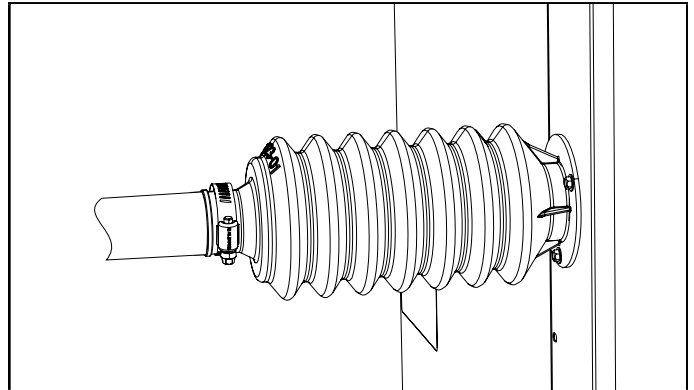

FIGURE 6. Band Clamp Installed on Sleeve
Connect the properly-sized field-provided liquid line to the liquid line stub as shown in figure 6 using the following procedures:
- 3 - Position the band clamp as shown in figure 6 and torque to 25 in-lbs to seal sleeve to line set.
- 2 - Position the band clamp as shown in figure 6 and torque to 20 in-lbs to seal sleeve to line set.